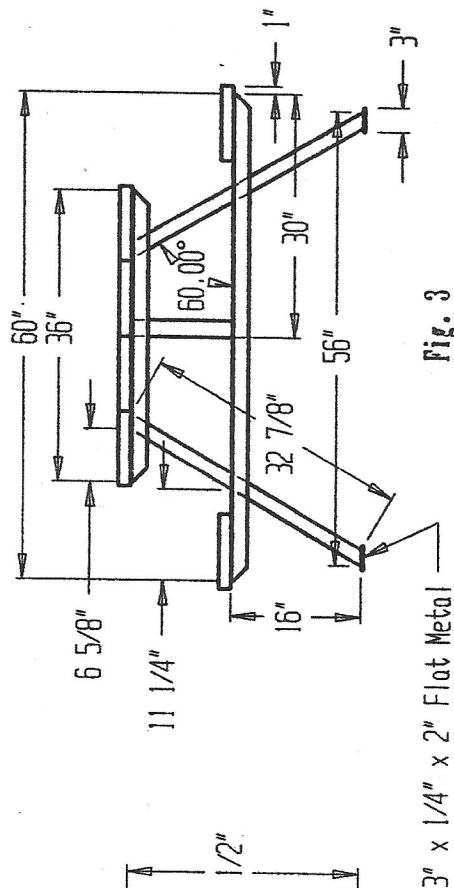

Fig. 3
5. Weld Seat cross bars and Legs together as shown in fig. 3.
7. Cut four 3" x 1/4" x 2" flat metal for Feet. See fig. 3.